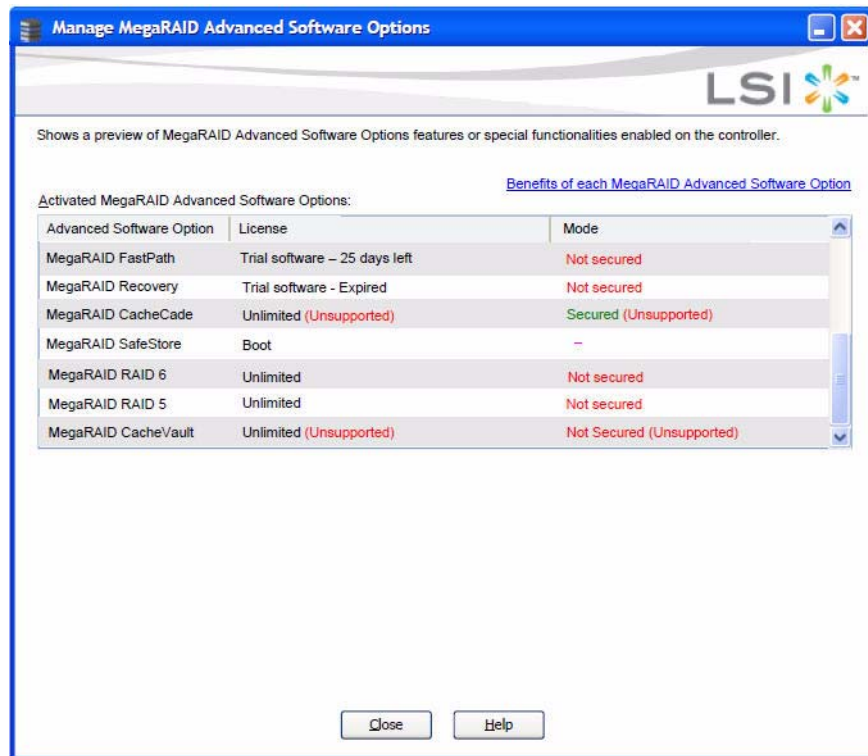

Figure 270: Manage MegaRAID Advanced Software Options Dialog
- If even one of the advanced software options present in the controller is in a boot mode, Figure 270 appears. You cannot activate any advanced software option from this window as this is a view-only window.